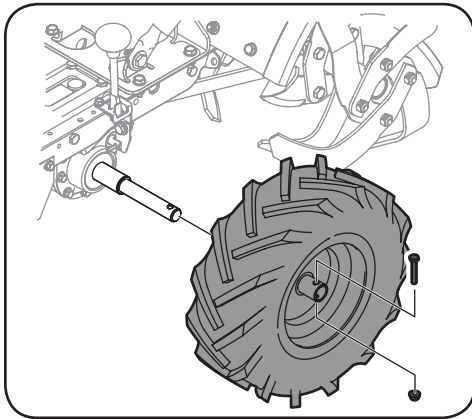

Figure 5-4
- Remove the left-side wheel by removing the nut and bolt from the wheel axle. See Figure 5-4.